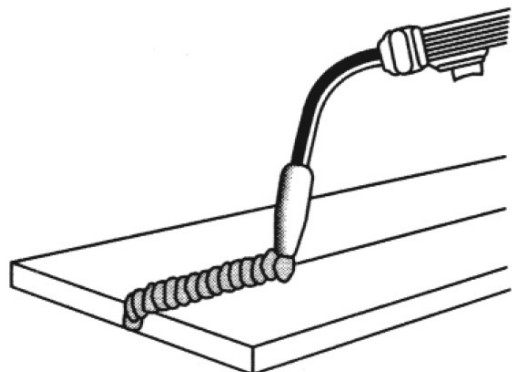

Figure 15. Flat Position
1. The **FLAT POSITION** (Figure 15) is the easiest of the welding positions and is most commonly used. It is best if you can weld in the flat position if at all possible as good results are easier to achieve.